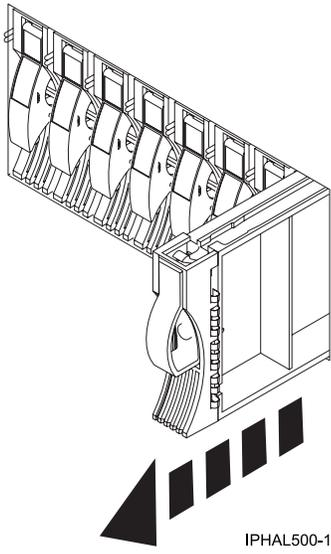

Figure 104. Removing a disk-drive filler from a model or 7311-D20
4. Pull the disk-drive filler from the slot. Pull the disk-drive filler from the slot that you want to use, as shown in Figure 104 on page 116.